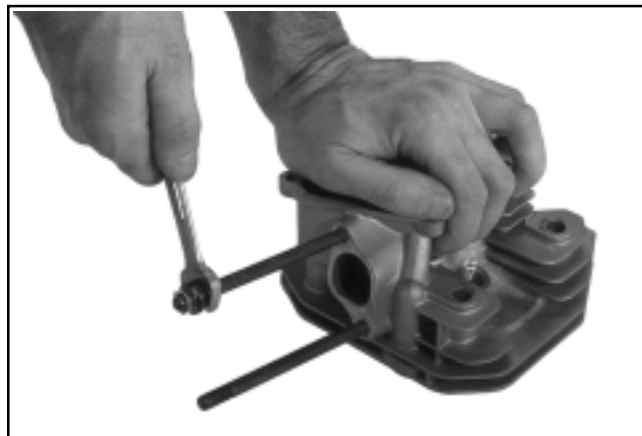

Figure 9-45. Removing Carburetor Mounting Studs.
5. If the cylinder head is being replaced, the carburetor mounting studs can be removed by using the air cleaner base nuts locked together. See Figure 9-45.